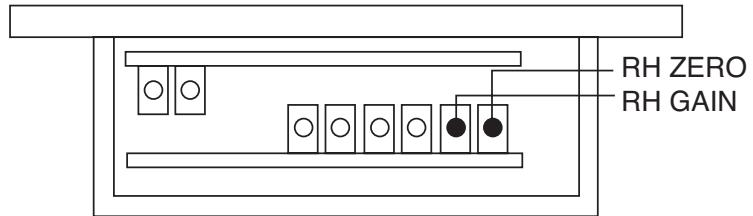

Figure 4-7. Location of the zero and span potentiometers in the LI-6200 or LI-6000 sensor housing.
5. Remove the top plate from the sensor housing by removing the four corner screws. Locate the zero and span potentiometers in the LI-6200 or LI-6000 sensor housing, as shown in Figure 4-7 below.